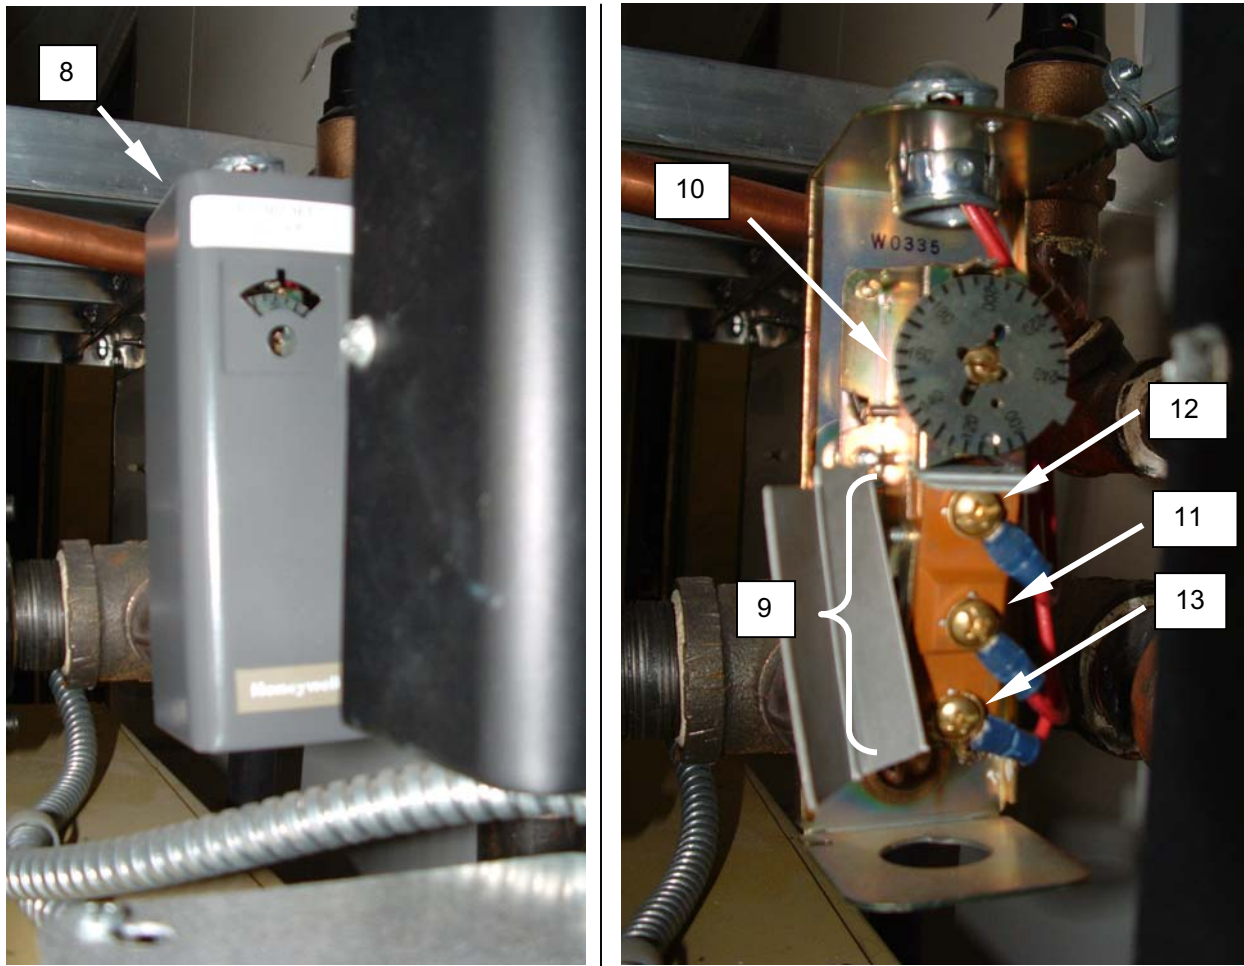

Figure 4. Test the High Temperature Cutout.
2. Loosen the screw retaining the high temperature cutout cover (**Figure 4, Item 8**), and remove the cover.
3. Tag and disconnect the wiring from the thermostat terminals (**Figure 4, Item 9**).
4. Ensure the dial (**Figure 4, Item 10**) has been set for approximately 210 °F.
5. Use an ohmmeter to test for continuity between the B terminal (**Figure 4, Item 11**) and R terminal (**Figure 4, Item 12**). There should be continuity between the two terminals.
6. Use an ohmmeter to test for continuity between the B terminal (**Figure 4, Item 11**) and W terminal (**Figure 4, Item 13**). There should be infinite resistance between the two terminals.
7. Reconnect the wiring to the terminals (**Figure 4, Items 9**) as tagged.
8. Install the high temperature cutout cover (**Figure 4, Item 8**), and retain with screw.